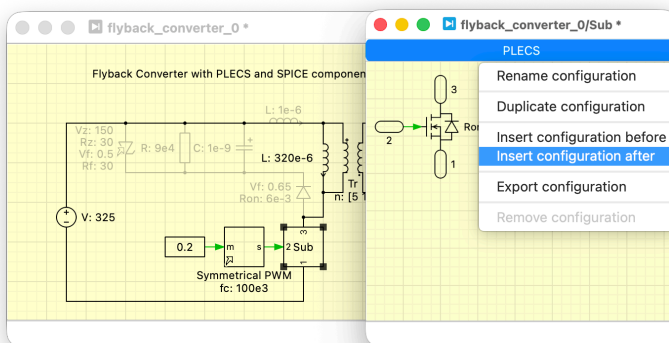

Figure 3: Insert configuration after
- 5 Add a new configuration after the existing one (**Right-click** on *PLECS* configuration, **Insert configuration after**) and rename the new configuration, for example, to *SPICE* (see Fig. 3).